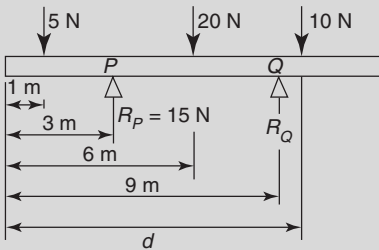

Figure A2.2
3. For the beam shown in Figure A2.2 calculate (a) the force acting on support Q , (b) distance d , neglecting any forces arising from the mass of the beam. (7)